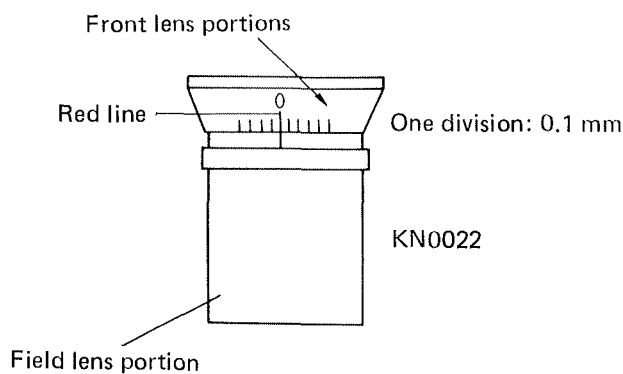

Fig. 11-22
(See Fig. 11-22)
- b) Attach KN0007 to the revolving nosepiece and rotate the scale on KN0022 of the O, or Red line position. (See Fig. 11-22)